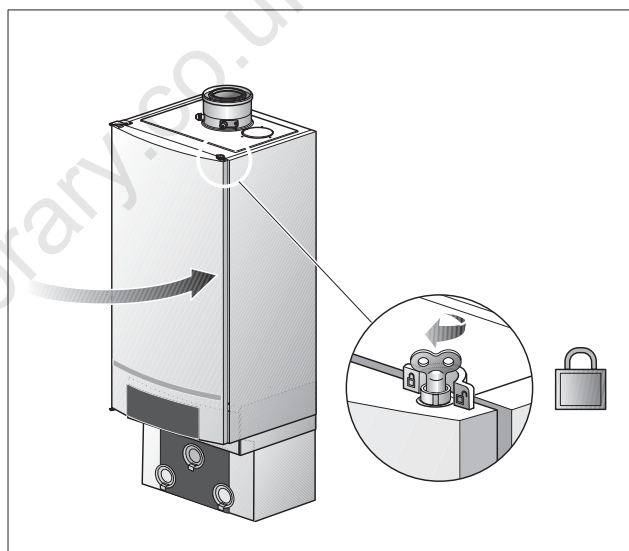

fig. 106 Closing the boiler door
- Close the boiler door (fig. 106) and lock the fastener by turning the vent screw through $\frac{1}{4}$ rotation in a clockwise direction.